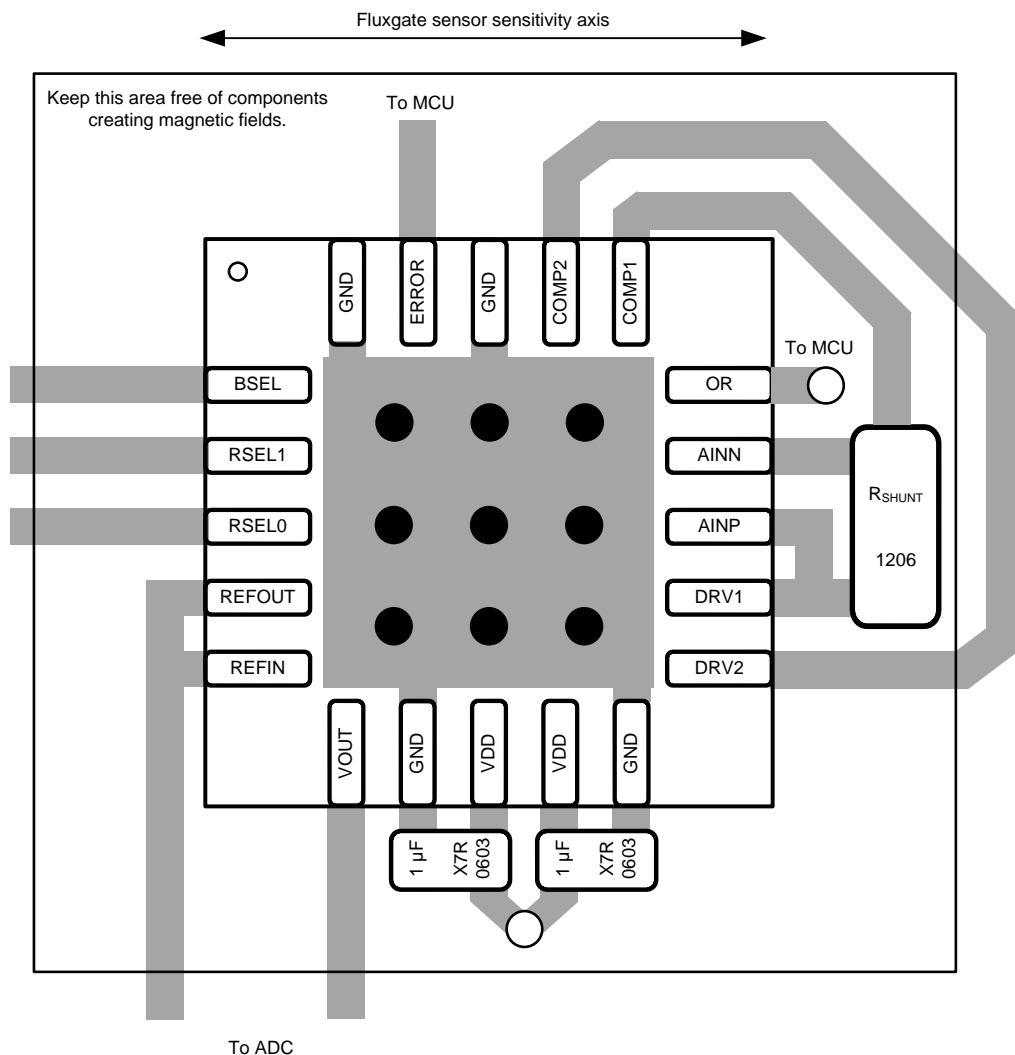

Figure 76. Generic Layout Example (Top View)
Decouple both VDD pins of the DRV425 with 1- μ F, X7R-type ceramic capacitors to the adjacent GND pin as illustrated in Figure 76. For best performance, place both decoupling capacitors as close to the related power-supply pins as possible. Connect these capacitors to the power-supply source in a way that allows the current to flow through the pads of the decoupling capacitors.
- Route currents parallel to the fluxgate sensor sensitivity axis as illustrated in Figure 76. As a result, magnetic fields are perpendicular to the fluxgate sensitivity and have limited affect.
Figure 76 illustrates a generic layout example that highlights the placement of components that are critical to the DRV425 performance. For specific layout examples, see the *DRV425EVM Users Guide*, SLOU410.